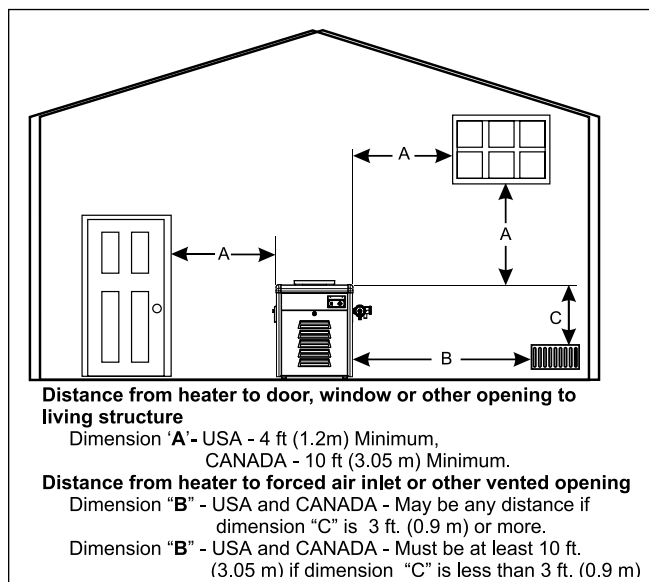

Figure 3. Outdoor Heater Installation
ing, even though the access might be through another structure (e.g., a garage or utility room). In the United States there must be a minimum of four (4) feet (1.22 m) horizontally **or** four (4) feet (1.22 m) vertically between the heater exhaust point and any door, glass opening, or gravity inlet to a building. In Canada, the heater must be installed so that the exhaust point of the heater is at least 10 feet (3.0 m) from any building opening. See Figure 3.